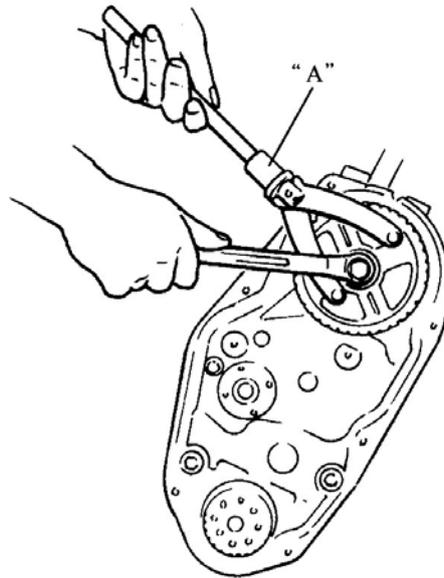

FIG.7-10
- (6) Remove belt tensioner.
(7) Remove camshaft timing belt pulley using special tool "A"(FIG.7-10)